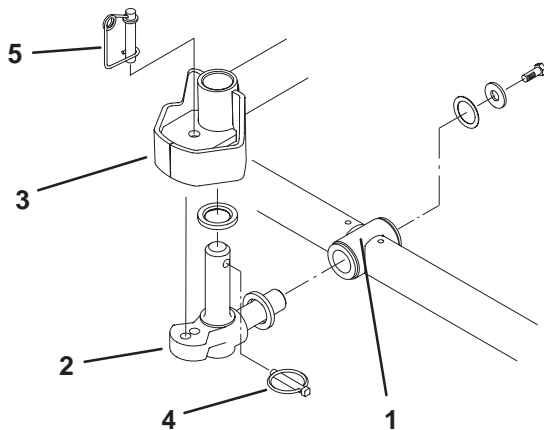

Figure 4
6. Insert a thrust washer onto horizontal shaft of pivot knuckle as shown in Figure 4.
7. Insert the horizontal shaft of the pivot knuckle into the mounting tube of the carrier frame (Fig. 4).
8. Secure pivot knuckle to carrier frame with a thrust washer, flat washer and a flange head capscrew (Fig. 4).
9. Insert a thrust washer onto vertical shaft of pivot knuckle (Fig. 4).
10. If removed, insert the vertical shaft of the pivot knuckle into lift arm pivot hub (Fig. 4). Guide the pivot knuckle in place between the two rubber centering bumpers in the under side of the lift arm steering plate.
11. Insert the lynch pin into the cross hole on the pivot knuckle shaft (Fig. 4).
Note: If fixed cutting unit position is required, insert steering locking pin into pivot knuckle mounting hole (Fig. 4).
14. Hook spring wire around bottom of steering locking pin (Fig. 4).